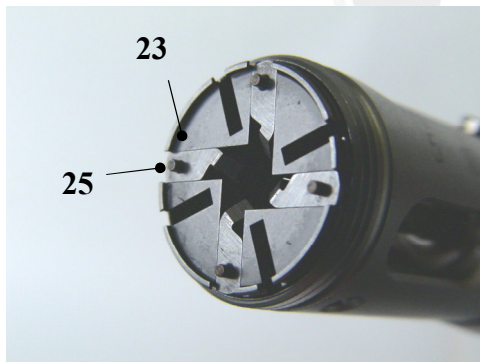

Fig. 15
- Reinstall guide plate **(23)** and insert the centering jaws **(25)** individually Fig. 15.